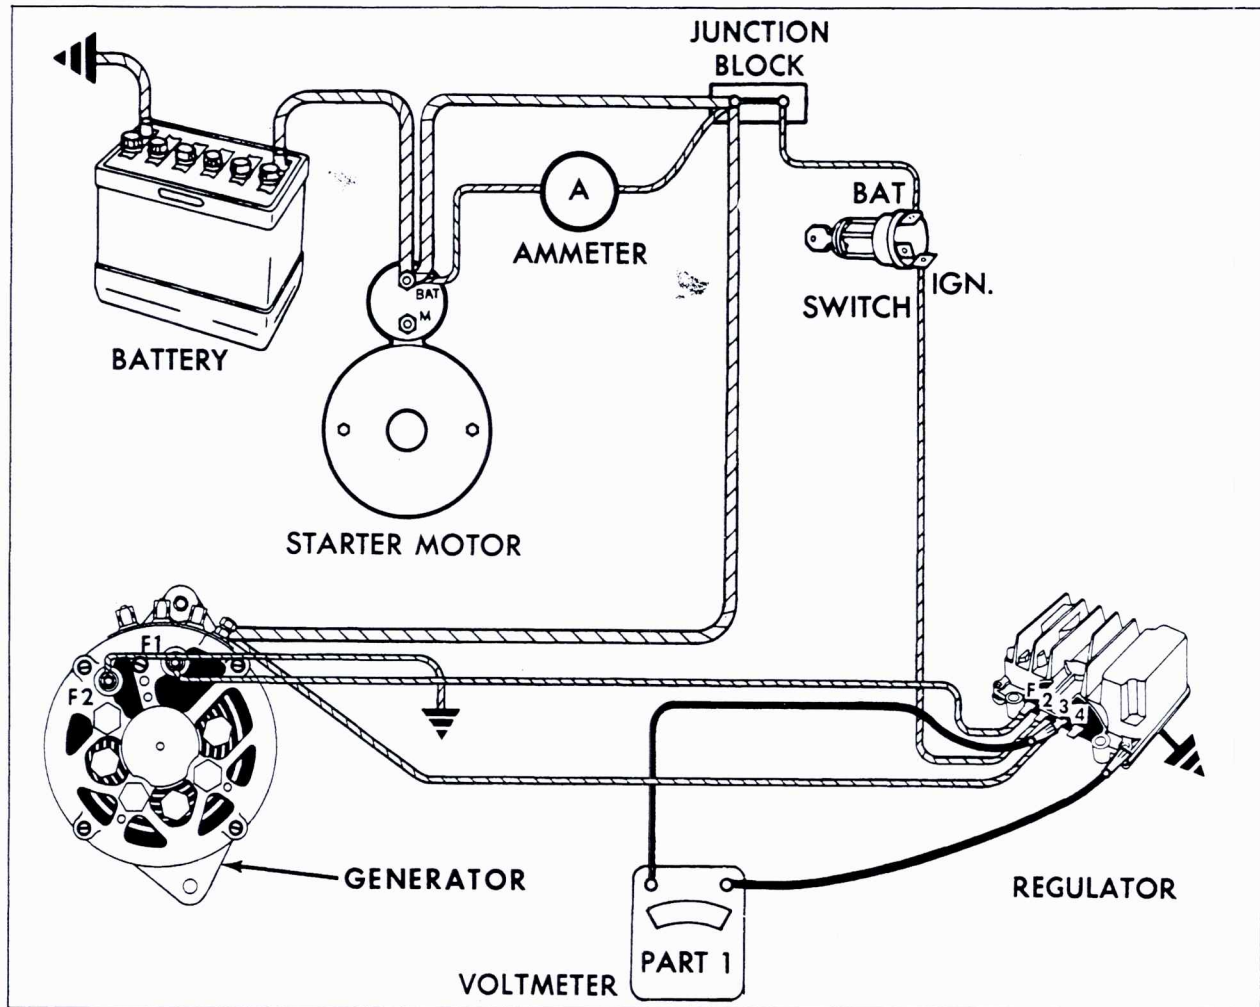

Fig. 6-37 Checking Voltage Regulator Setting
12. Operate the engine at approximately 1500 RPM for 15 minutes with lower beam headlights "on". Thermometer, Tool J-8529, should be placed on the regulator. With engine running, record voltage reading with voltmeter connected from the regulator No. 3 terminal to ground, Fig. 6-37.